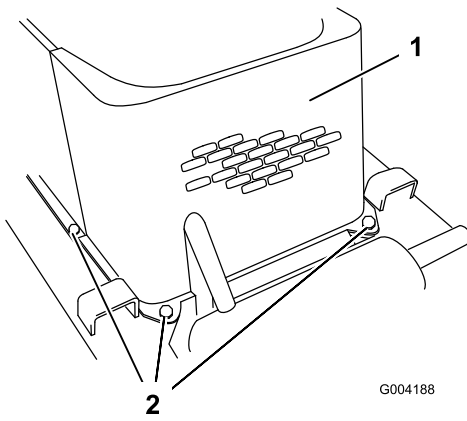

Figure 21
5. Remove the 4 bolts securing the front screen to the traction unit frame (Figure 21).